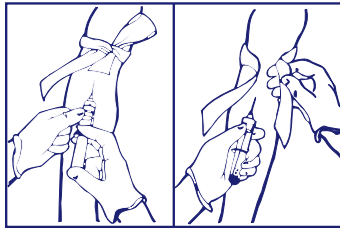

Figure 1
6. Remove needle shield. Perform venipuncture WITH PATIENT'S ARM IN A DOWNWARD POSITION AND TUBE STOPPER UPPERMOST (see Figure 1). This reduces the risk of backflow of any anticoagulant into the patient's circulation.